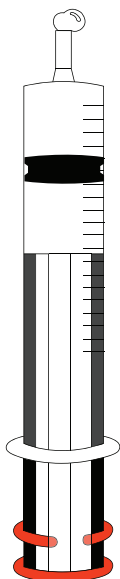

Figure 20 Fill the vacuum syringe
12. Fill the vacuum syringe with 5 mL deionized water. Turn the syringe upside down and remove residual air (Figure 20).